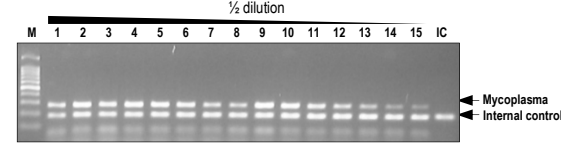

Fig.2. Mycoplasma detection was performed using the e-Mycro™ Mycoplasma PCR Detection Kit (ver.2.0) method
- The PCR amplification efficiency varies by mycoplasma infection range. Strong mycoplasma infections are detected in as little as 10~100 cell equivalents, while weak infections require cell equivalents from the 5000~50,000 range. So, we recommend that you plan various cell numbers in preparing PCR templates from the cultured cells by using the boiling method. Please refer to Fig. 2.